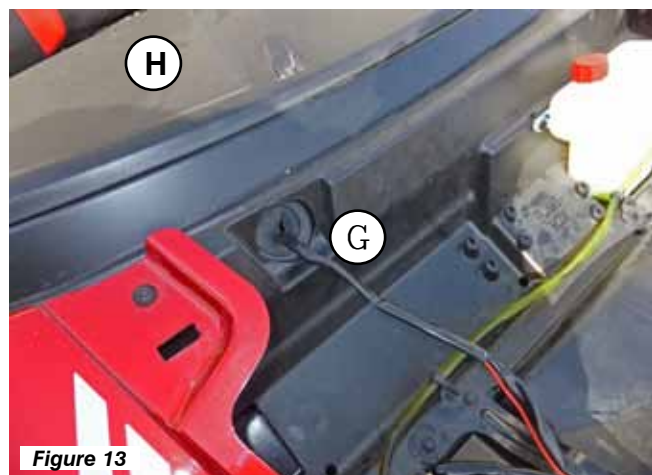

Figure 13
16. Route switch wiring behind front dash and through a wiring grommet located behind the glove box. See grommet (G) located in Figure 13. You may remove the top access panel (H) to aid in routing and securing wiring.